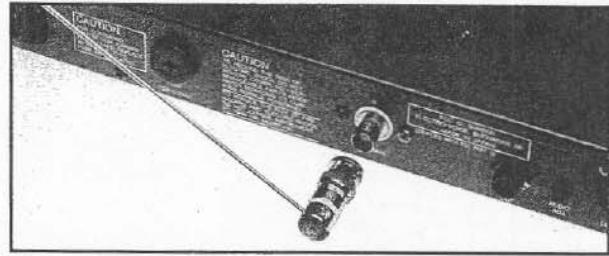

Figure 1 - Connect Antennas on Rear Panel
- 1) **Attach the whip antennas to the rear-panel antenna connectors, twisting clockwise one-quarter turn to lock (disconnect by lightly pushing in and twisting counterclockwise one-quarter turn) (see Figure 1). Position the antennas in an upright "V" configuration (like TV rabbit ears). If the receiver is mounted in a rack, the whip antennas can be made to go straight back by loosening the Allen screw in the barrel of the BNC connector, pulling the antenna out, replacing it in the top of the BNC connector, and retightening the Allen screw. **Note:** Dipole antennas provide better range and reliability in difficult installations. See section on antennas later in this manual.**